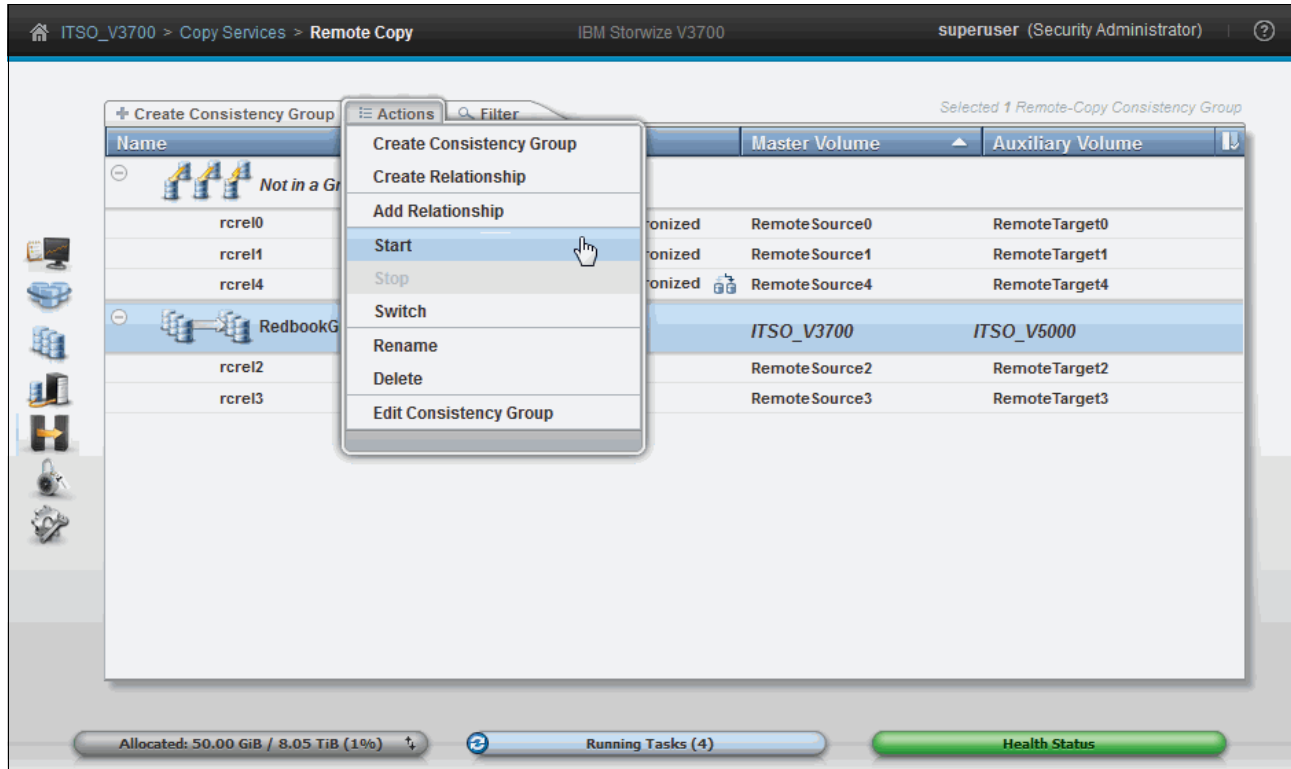

Figure 10-138 Starting the consistency group
1. Click **Start** in the **Actions** menu, as shown in Figure 10-138, or right-click the consistency group.